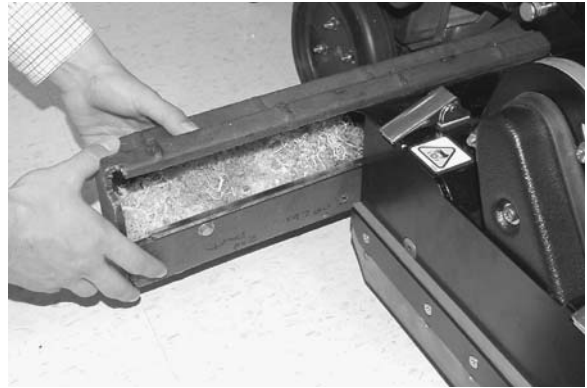

FIG. 35
3. Empty and rinse out debris trough (Figure 35).